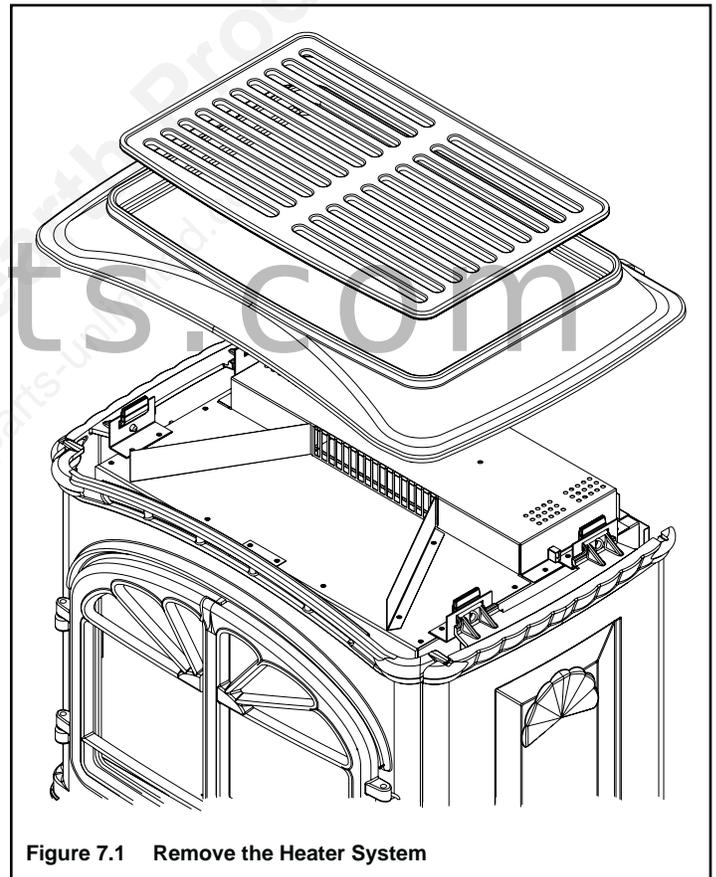

Figure 7.1 Remove the Heater System
- Remove the heater system. See Figure 7.1. Rest it on top of the appliance so it does not fall.